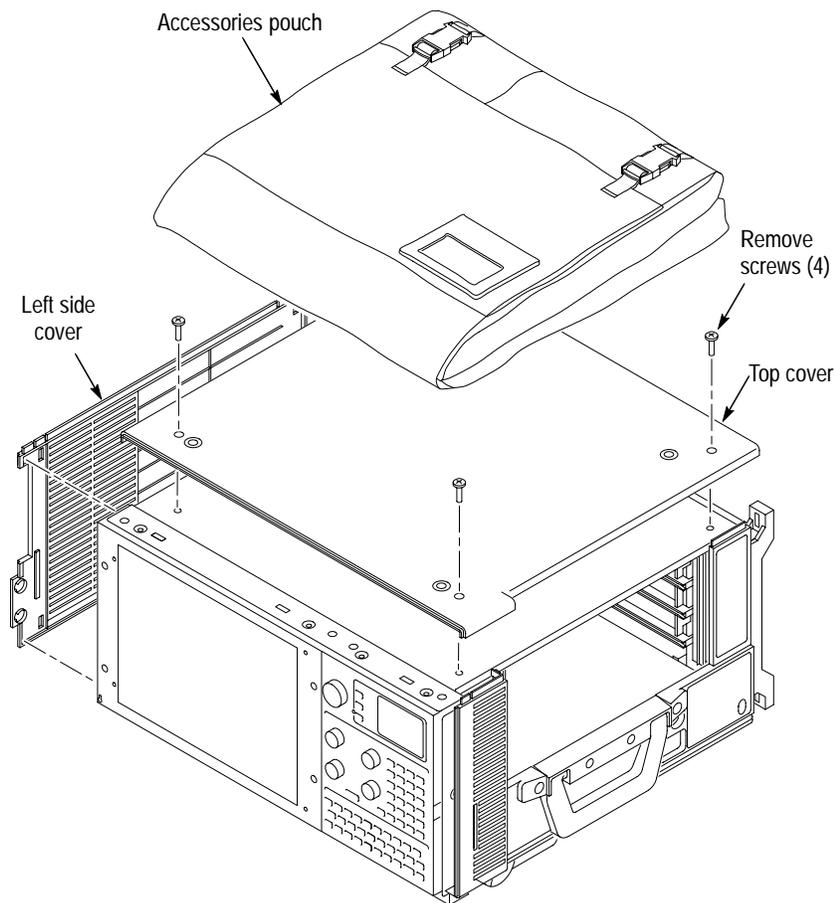

Figure 2: Pouch, top cover and left side cover removal
8. Set the mainframe on your work surface with the bottom facing down and the front facing you. (See Figure 2.)